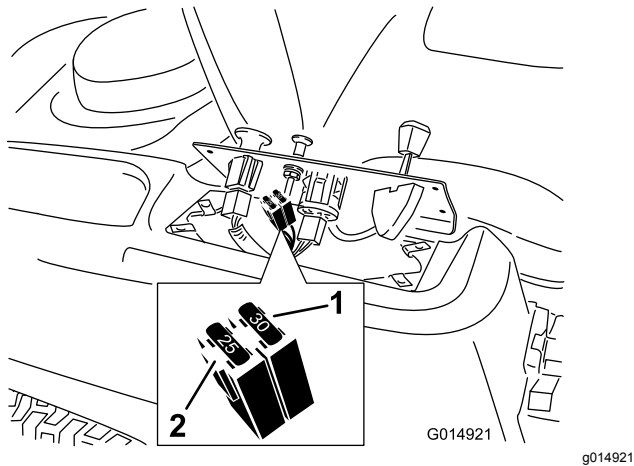

Figure 41
2. Lift the control pane up to access the main wiring harness and fuse block (Figure 41).
3. To replace a fuse, pull out on the fuse to remove it (Figure 41).